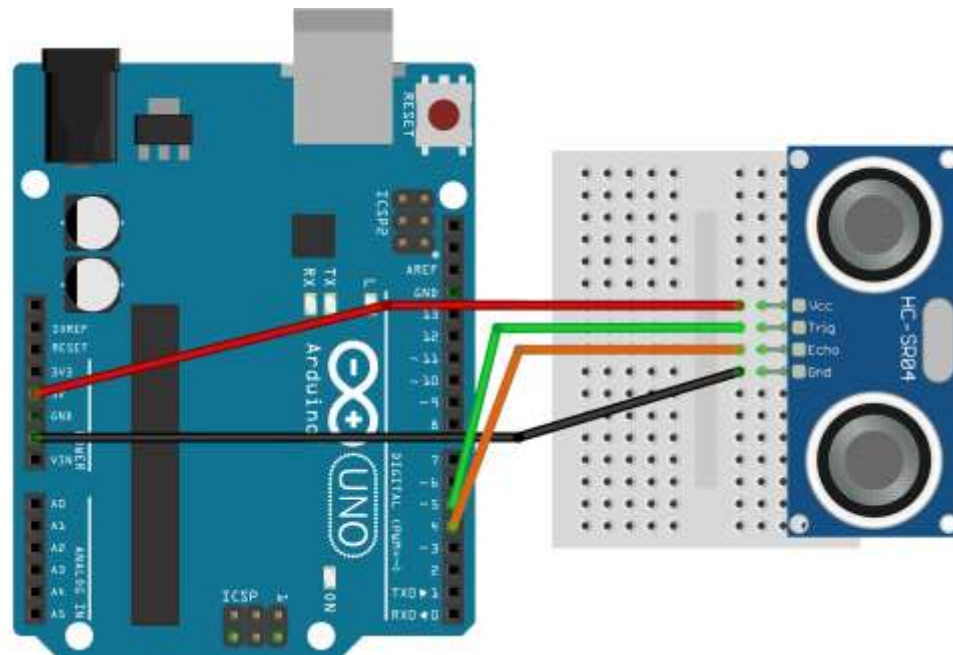

Figure 1: Hardware Set-Up for Ultrasonic Sensor Exercise
The exercise involves connecting an HC-SR04 ultrasonic sensor to an Arduino Uno to measure distance, see Figure 1.
1. Connect the ultrasonic sensor directly to the breadboard (as shown in the Figure 1)